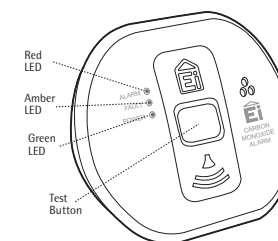

Fig.5
9. Press the Test button (after 15 seconds) to ensure that the Alarm sounds (see figure 5).